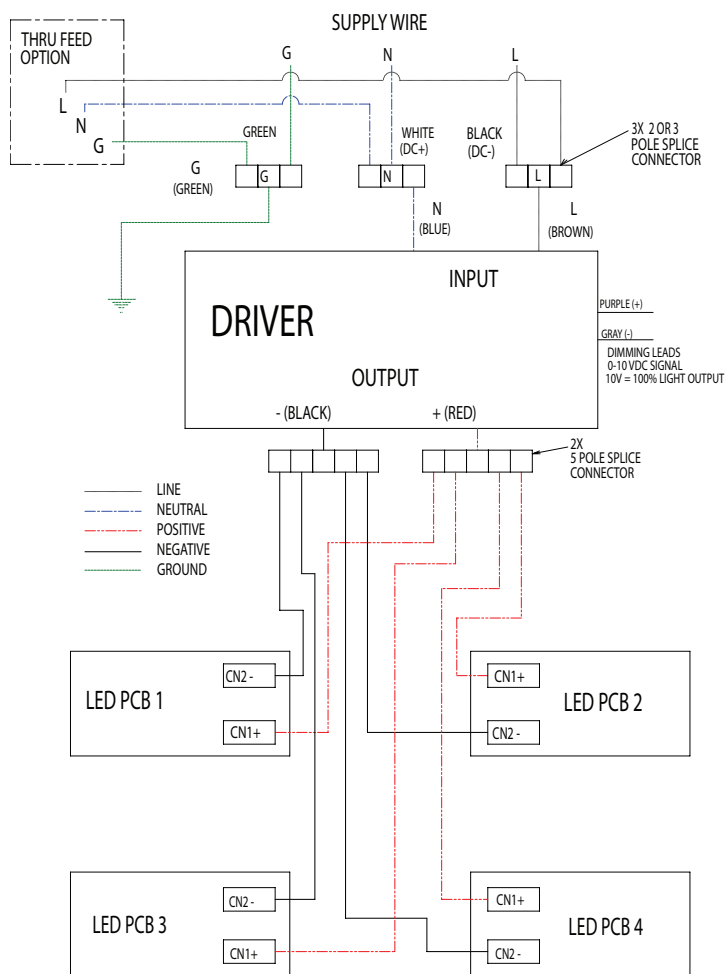

Figure 16
3. To aide in driver cover removal, a pry point is located on one corner of the driver (see Figure 16).